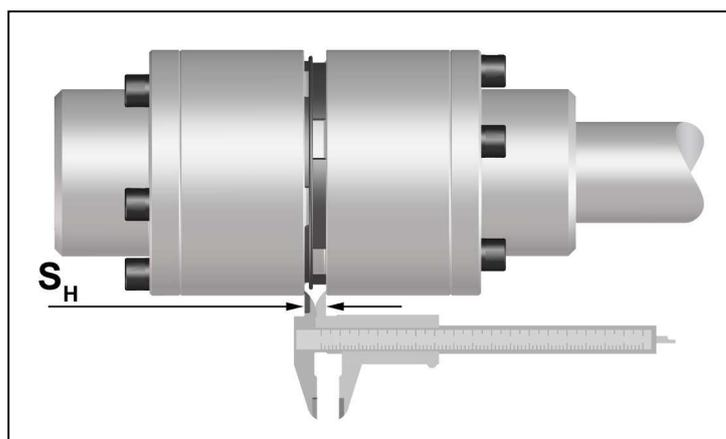

Fig. 9
- Measure, according to Figure 9 the axial gap measurement  $S_H$ .